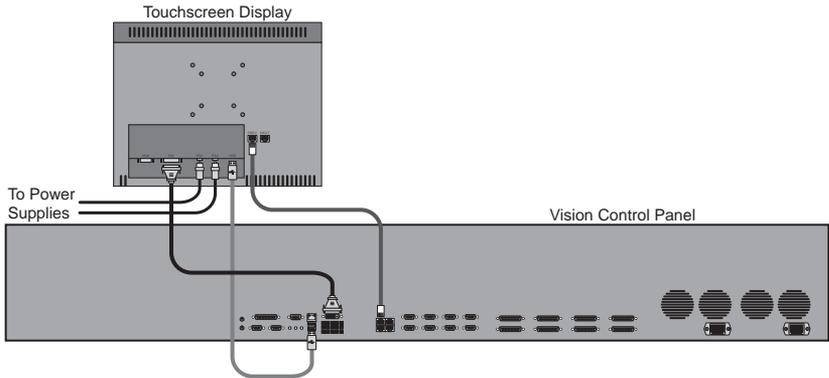

Figure 2 Touchscreen Display Connections to the Vision Control Panel
2. Connect and secure one end of the **DVI Cable** to the **DVI** port on the back of the Vision control panel (**Figure 2**).